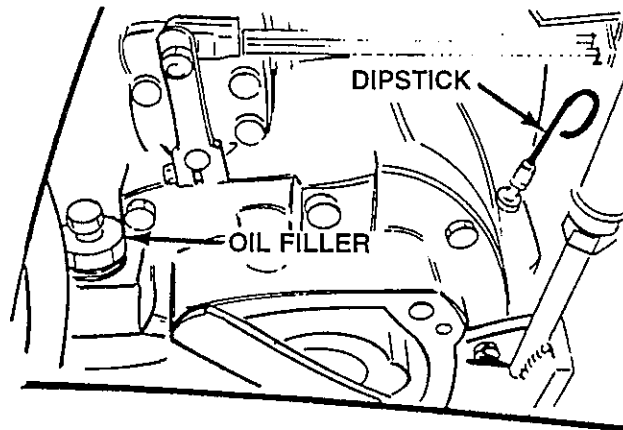

Figure 3-6 Checking Transmission Oil Level
7. See Figure 3-6. Check transmission oil level. Pull out dipstick and make sure the level is up to the "FULL" mark.
4. See Figure 3-6. Check that the oil level in the transmission is up to the FULL mark. If transmissions need oil, refer to Section 5, Maintenance for transmission oil type and filling instructions.